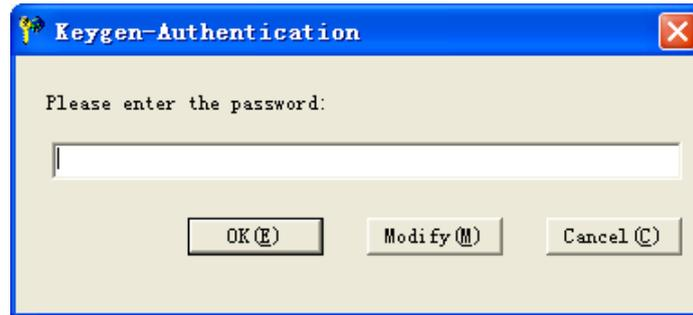
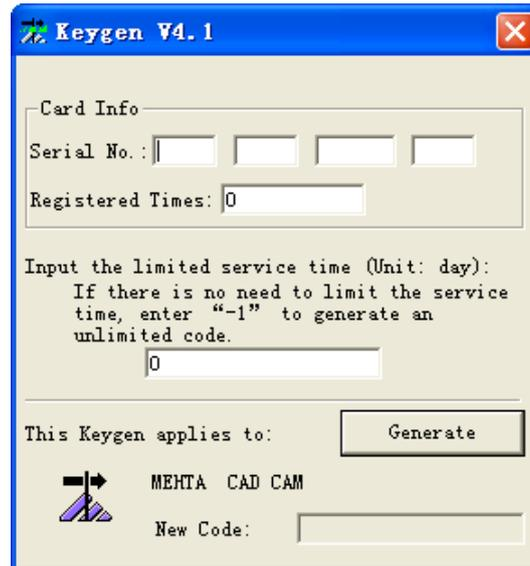

Fig. 3-99 Registration code maker-1
Fig. 3-100 Registration code maker-2
- 2) Double click the registration code maker “GetRegCode.exe”, and then enter the password “ncstudio” (revisable) in the dialog box as shown in Fig. 3-99. Then press Enter, input control card serial number, registered times and limited service time, and then click “Generate” to generate a new code displayed on the lower part, as shown in Fig. 3-100. If service time does not need limiting, input “-1” in the limited service time box to generate an unlimited code.